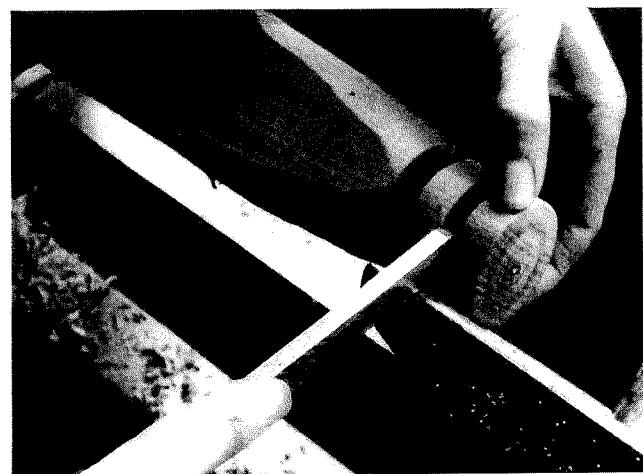

FIGURE 9-9
- 4** With the wheel diameter ever-so-slightly smaller than the width of the pan track, rub down the wheels to a smooth finish, and part them off one piece at a time with the lathe (Fig 9-9). Note: If you have a tailstock drill chuck, you could bore out the pivot holes prior to parting off.